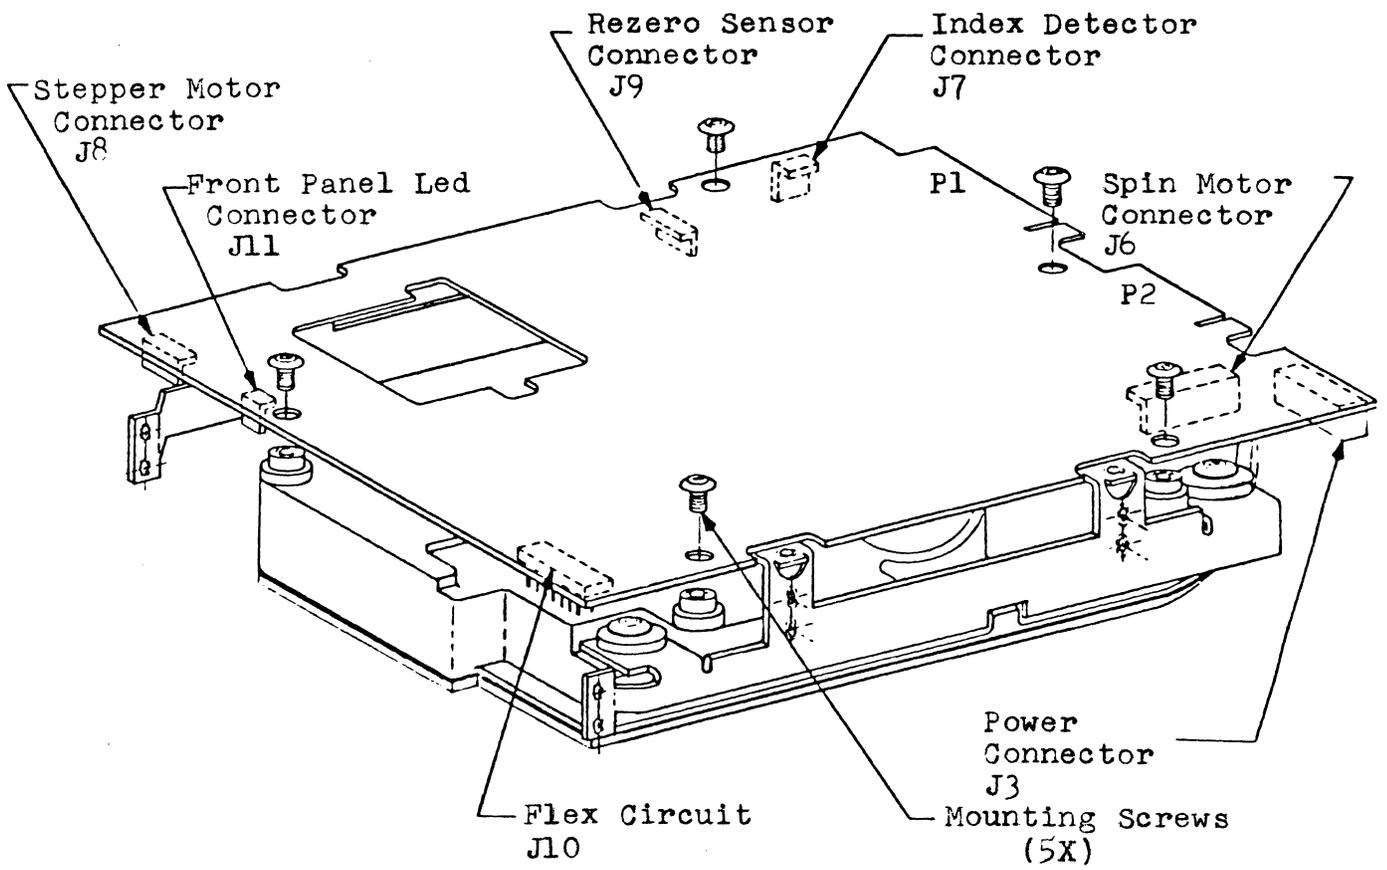

FIGURE 9-1
## 9.0 PRINTED CIRCUIT CARD REPLACEMENT (See Figure 9-1)
- Step 5: Disconnect all remaining connectors (refer to Figure 9.1).